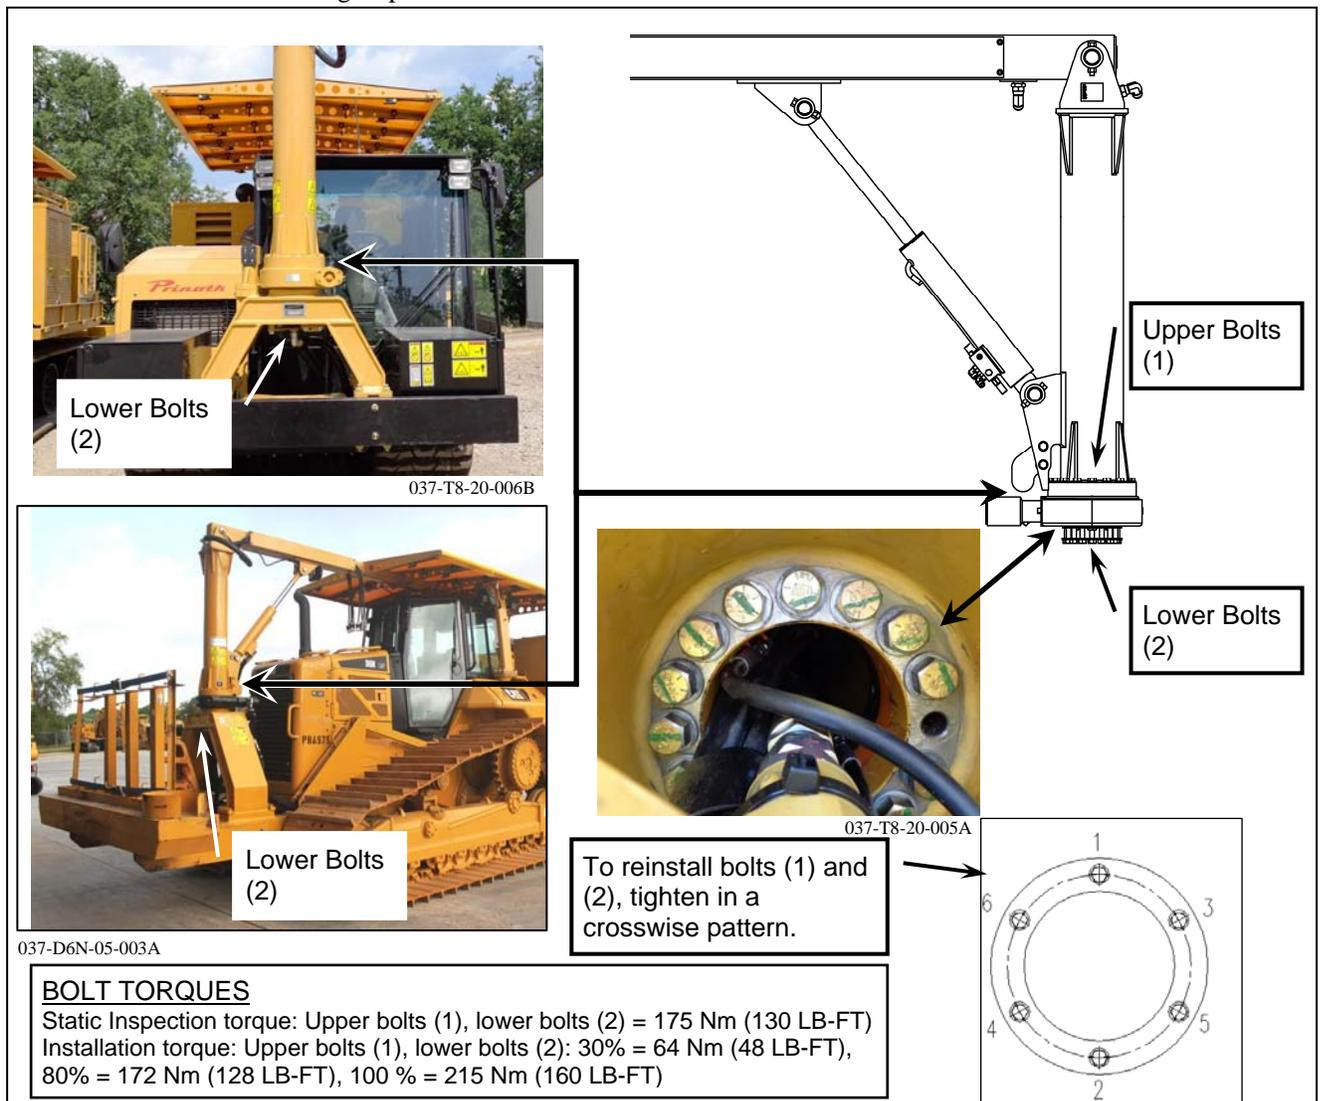

Figure 16: Slewing drive mounting bolts torque
2. Preload the bolts crosswise. See the general pattern in the sketch in Figure 16 below to reinstall bolts (1) and (2), tighten in a crosswise pattern sequence.